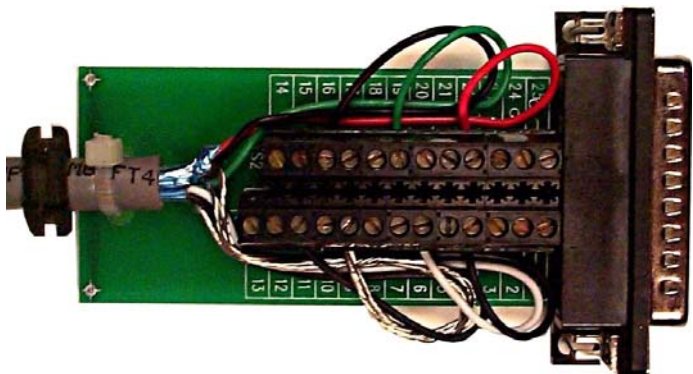

FIGURE 1
- 3) It is suggested you put strain loops when connecting the wires to the terminals. See Figure 1. This will allow you sufficient wire in case alternate connections must be made later.
- 4) The terminal numbers are plainly marked by the terminal strip which correspond to the DB25 connector pins. Fan the wires around the tail end of the terminals and make all your connections. See Figure 1.